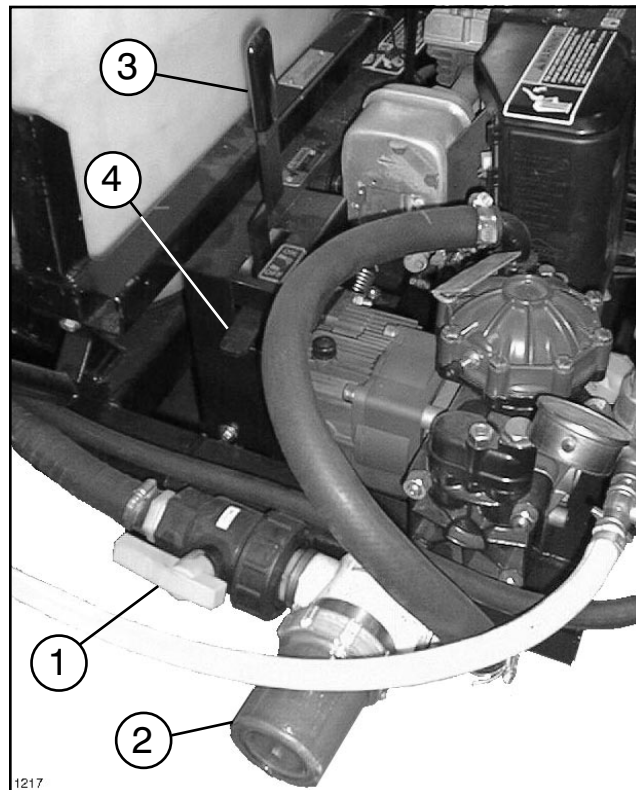

FIG. 13
4. Park vehicle on level surface and set the parking brake. Move the Pump Engagement Lever to the "OFF" position. See Fig. 13. Start the engine as instructed in the "ENGINE OPERATING INSTRUCTIONS" section.